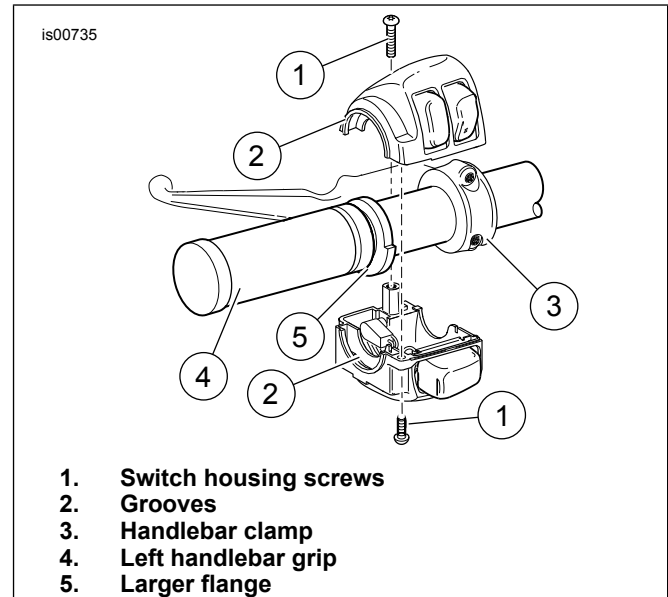

Figure 1. Left Handlebar Switch Housing
1. See Figure 1. Using a T27 TORX® drive head, remove the two screws with flat washers securing the handlebar clamp (3) to the clutch lever bracket. Remove the clamp and position the clutch hand lever assembly away from the handlebar.
2. Using a T25 TORX® drive head, loosen but do not remove the upper and lower switch housing screws (1).